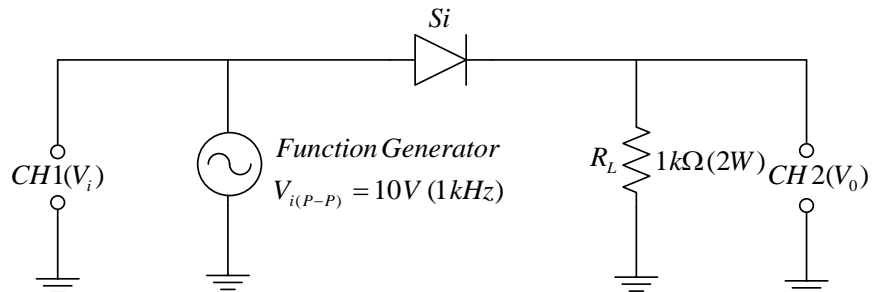

Fig 3.1 Half wave rectifier
1. Connect the circuit on breadboard as shown in Fig 3.1. Adjust the function generator as required.
4. Measure the peak voltage of the output " V_P " for Fig 3.1 as shown by CH2 of Oscilloscope. Now calculate the following value: